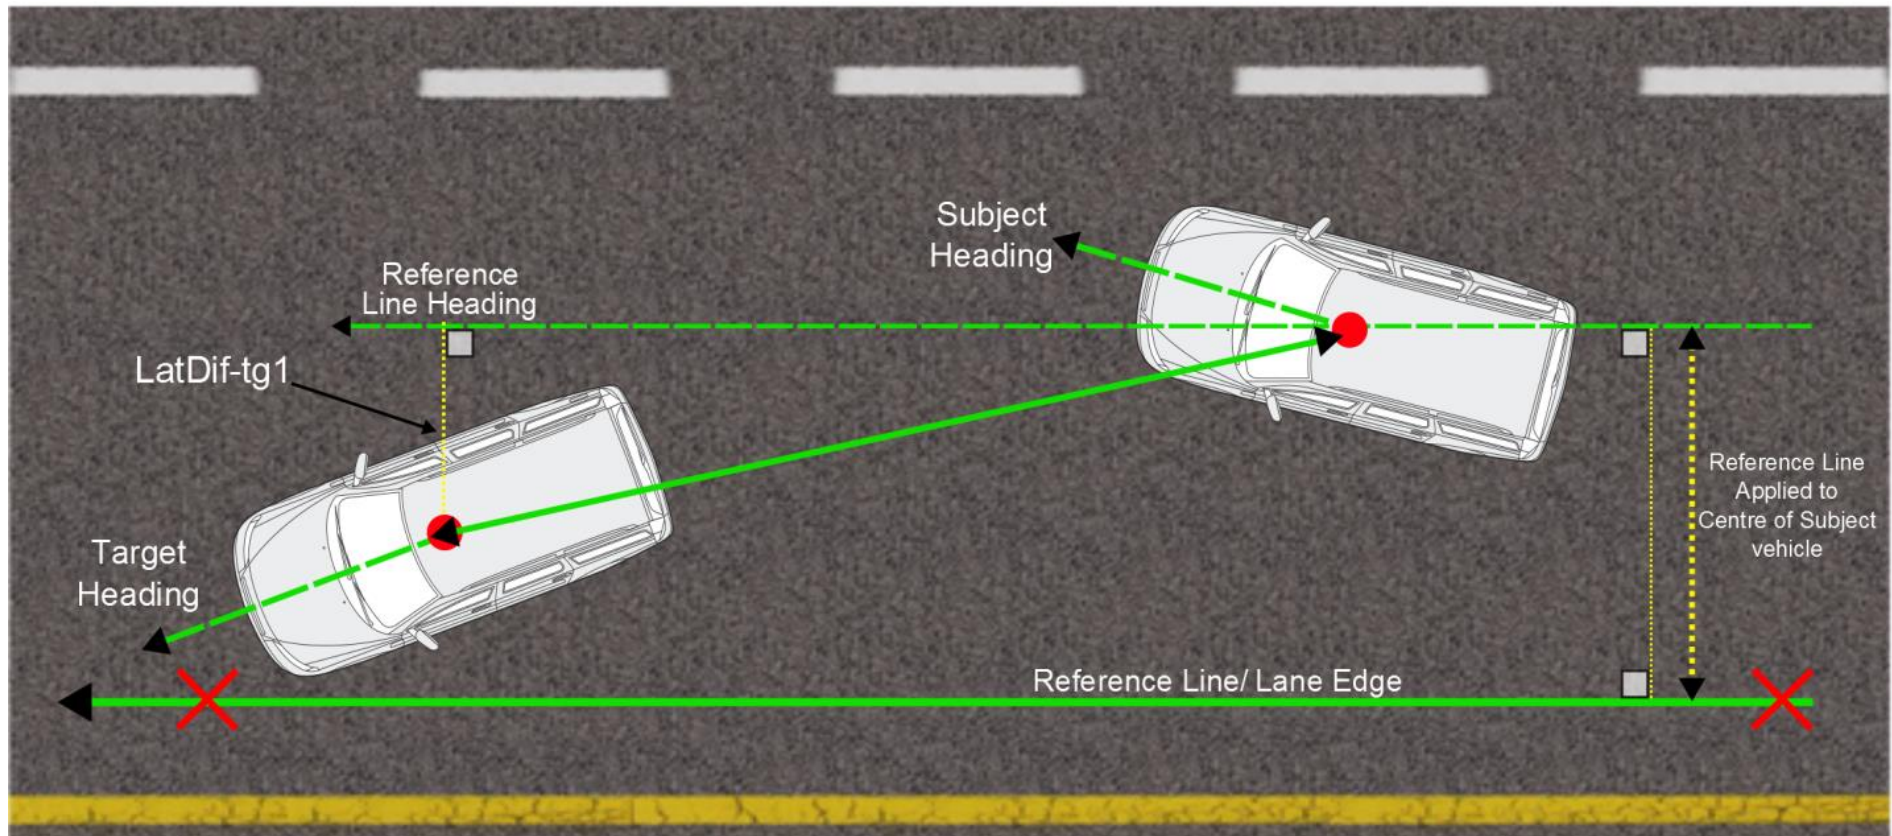

Figure 17: LatDif-tg1 calculations using a heading of a reference lane
See Figure 17.
*See Figure 17;